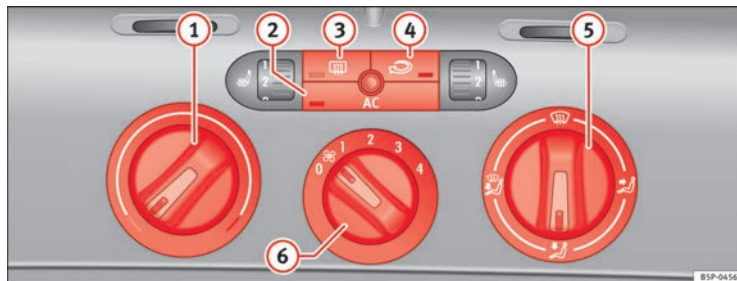

Fig. 126 On the dash panel: Climatic controls
- Turn the temperature selector ⇒ Fig. 126 ① clockwise to select the required temperature.